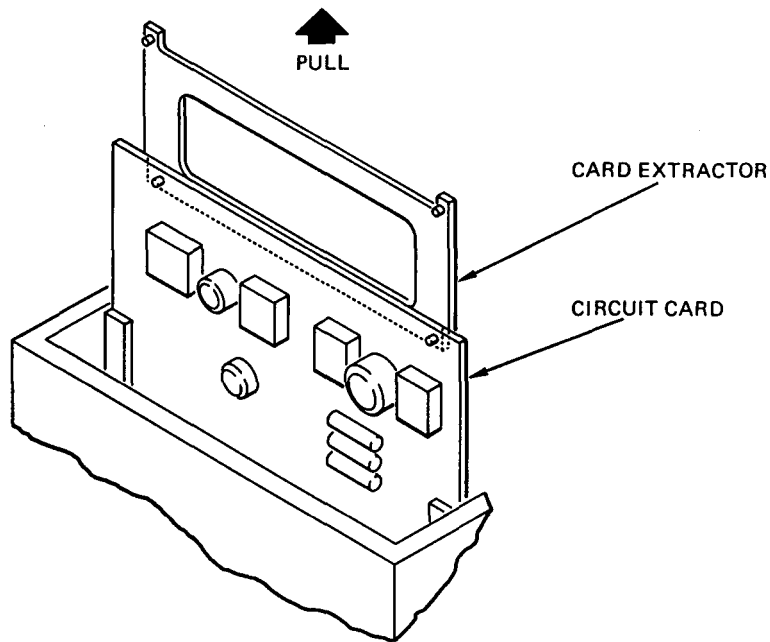

Figure 3-8. Typical Circuit Card Assembly Removal
(1) Removal
- (a) Loosen 16 captive screws (2) and washers (1) securing computer cover (3) to computer subassembly (10); remove cover.
- (b) Use card extractor to remove circuit card assemblies (20 thru 28) as shown in figure 3-8.
(2) Replacement.